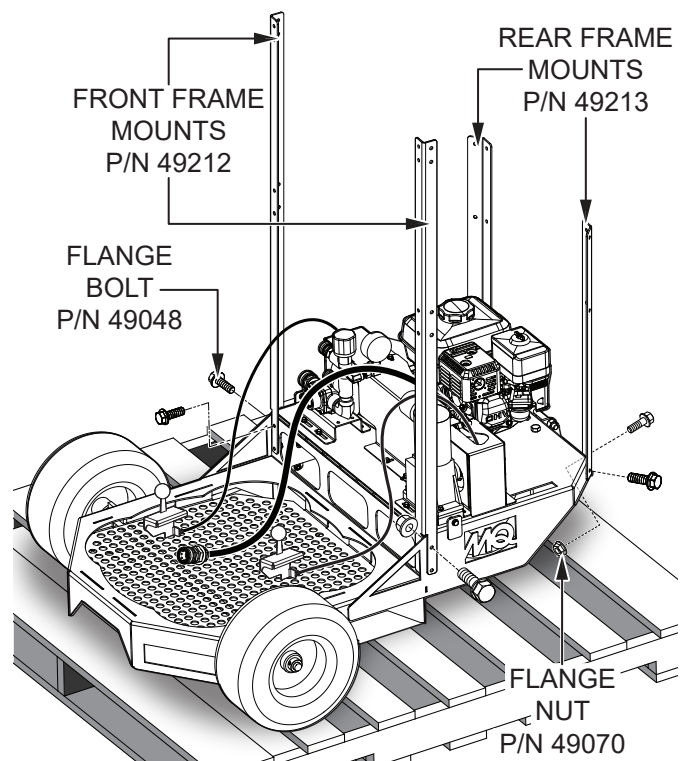

Figure 6. Frame Mount Installation
2. Secure the two rear upright frame mounts (P/N 49213) to the frame with four 1/4-20 x 3/4" flange bolts (P/N 49048) and four 1/4-20 flange nuts (P/N 49070). See Figure 6.
- Secure the two front upright frame mounts (P/N 49212) to the frame with four 1/4-20 x 3/4" flange bolts (P/N 49048) and four 1/4-20 flange nuts (P/N 49070). See Figure 6.